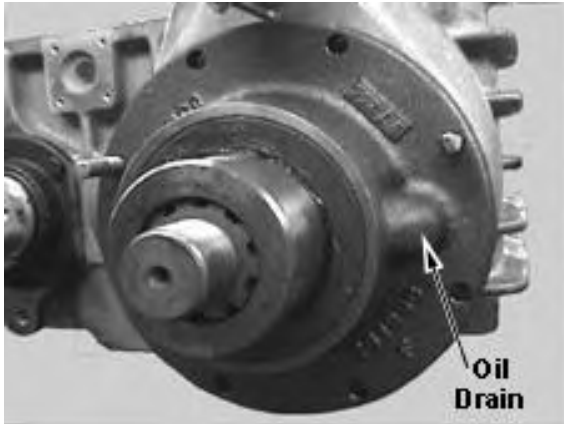

Fig. 84
43. Install front output shaft into declutch housing using a new gasket. Align bearing oil drain with the bottom of the case. Apply Loctite #272 to bolt threads and torque to spec. See Fig. 84.